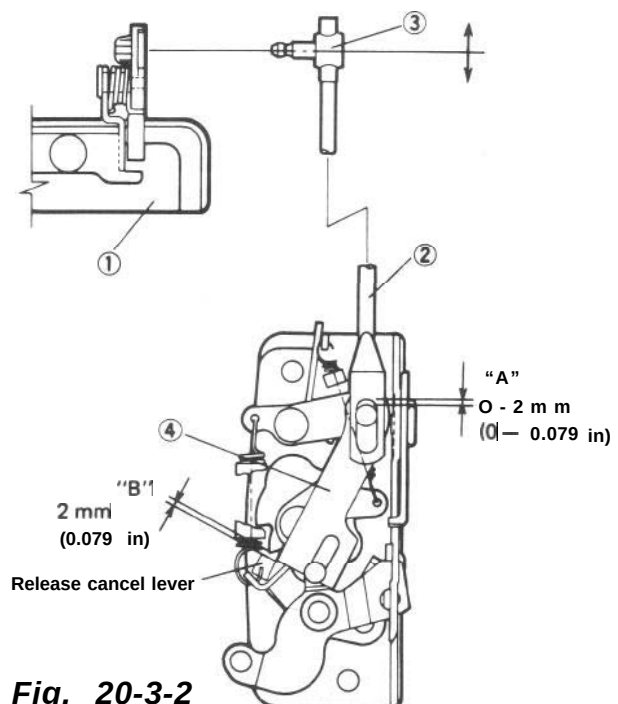

Fig. 20-3-2
When installing open rod (2) onto outside open handle (1), adjust clearances "A" to 0 – 2 mm (0 – 0.079 in) and "B" to 2 mm (0.079 in) as shown in Fig. 20-3-2 by turning adjusting joint (3).